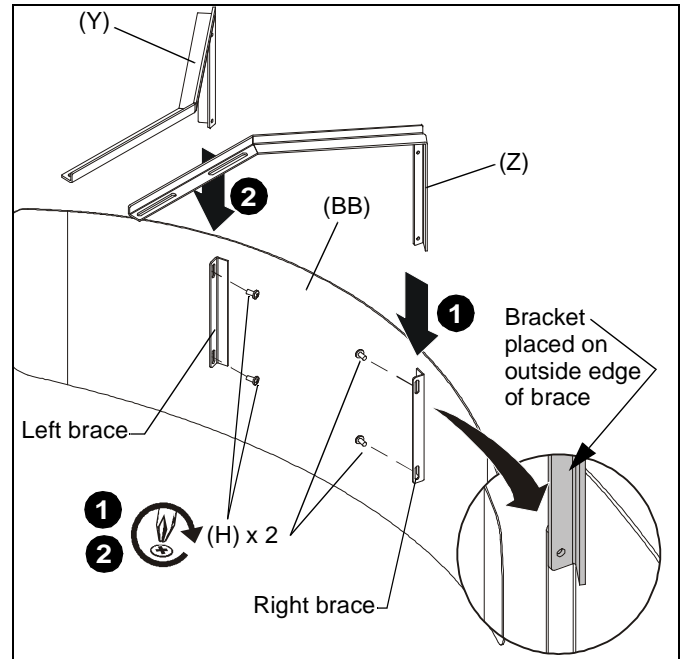

Figure 18
1. Align right valence bracket (Z) along **outside** of right brace on back of valence (BB), and fasten with two 10-24 x 3/8" Phillips pan head machine screws (H). (See Figure 18)
2. Align left valence bracket (Y) along **outside** of left brace on back of valence (BB), and fasten with two 10-24 x 3/8" Phillips pan head machine screws (H). (See Figure 18)